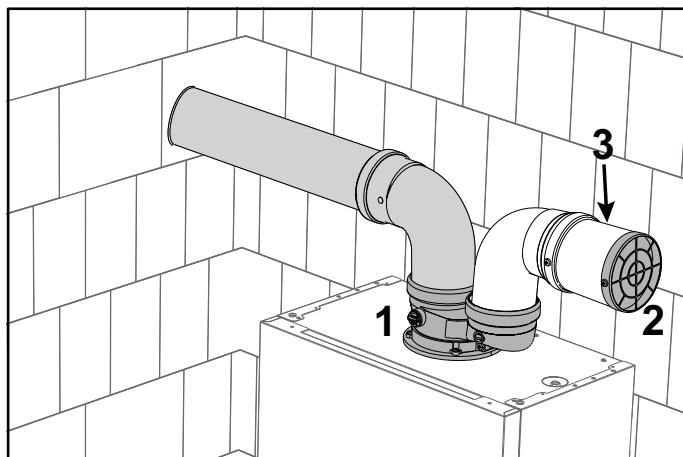

fig. 48- Protection grille
Install the starting accessory (ref. 1 fig. 48 - code **041082X0**). The protection grille must be mounted in the intake duct (ref. 2 - fig. 48 - code **1KWMA85A**). If necessary, insert a short piece (3) between the grille and the accessory.